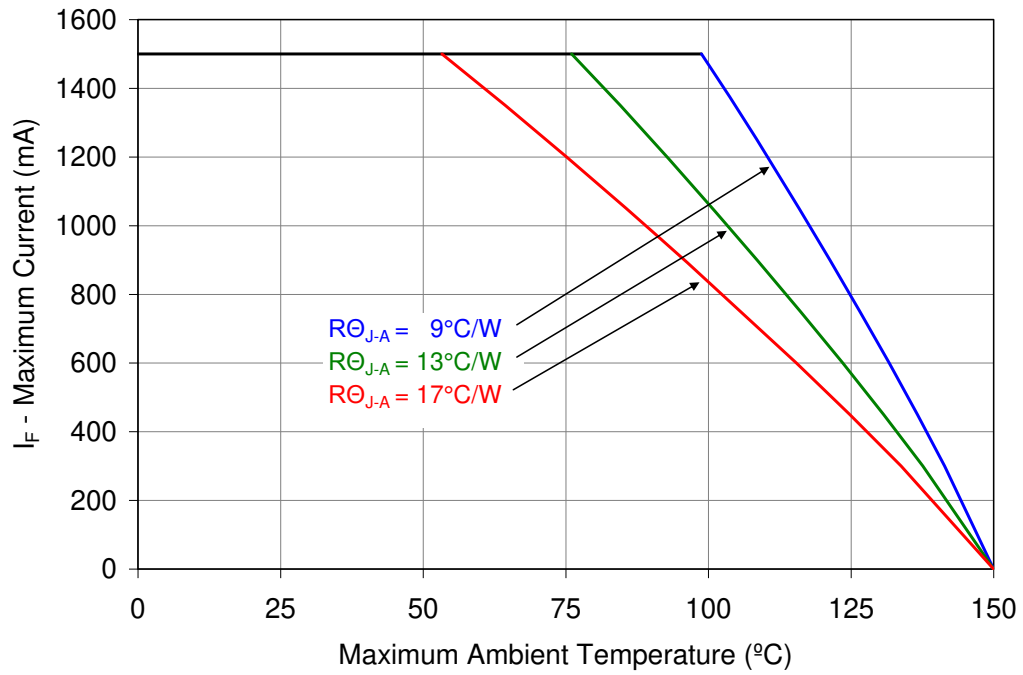

Figure 10: Maximum forward current vs. ambient temperature based on T_{J(MAX)} = 150°C.
- Maximum DC forward current is determined by the overall thermal resistance and ambient temperature. Follow the curves in Figure 10 for current derating.